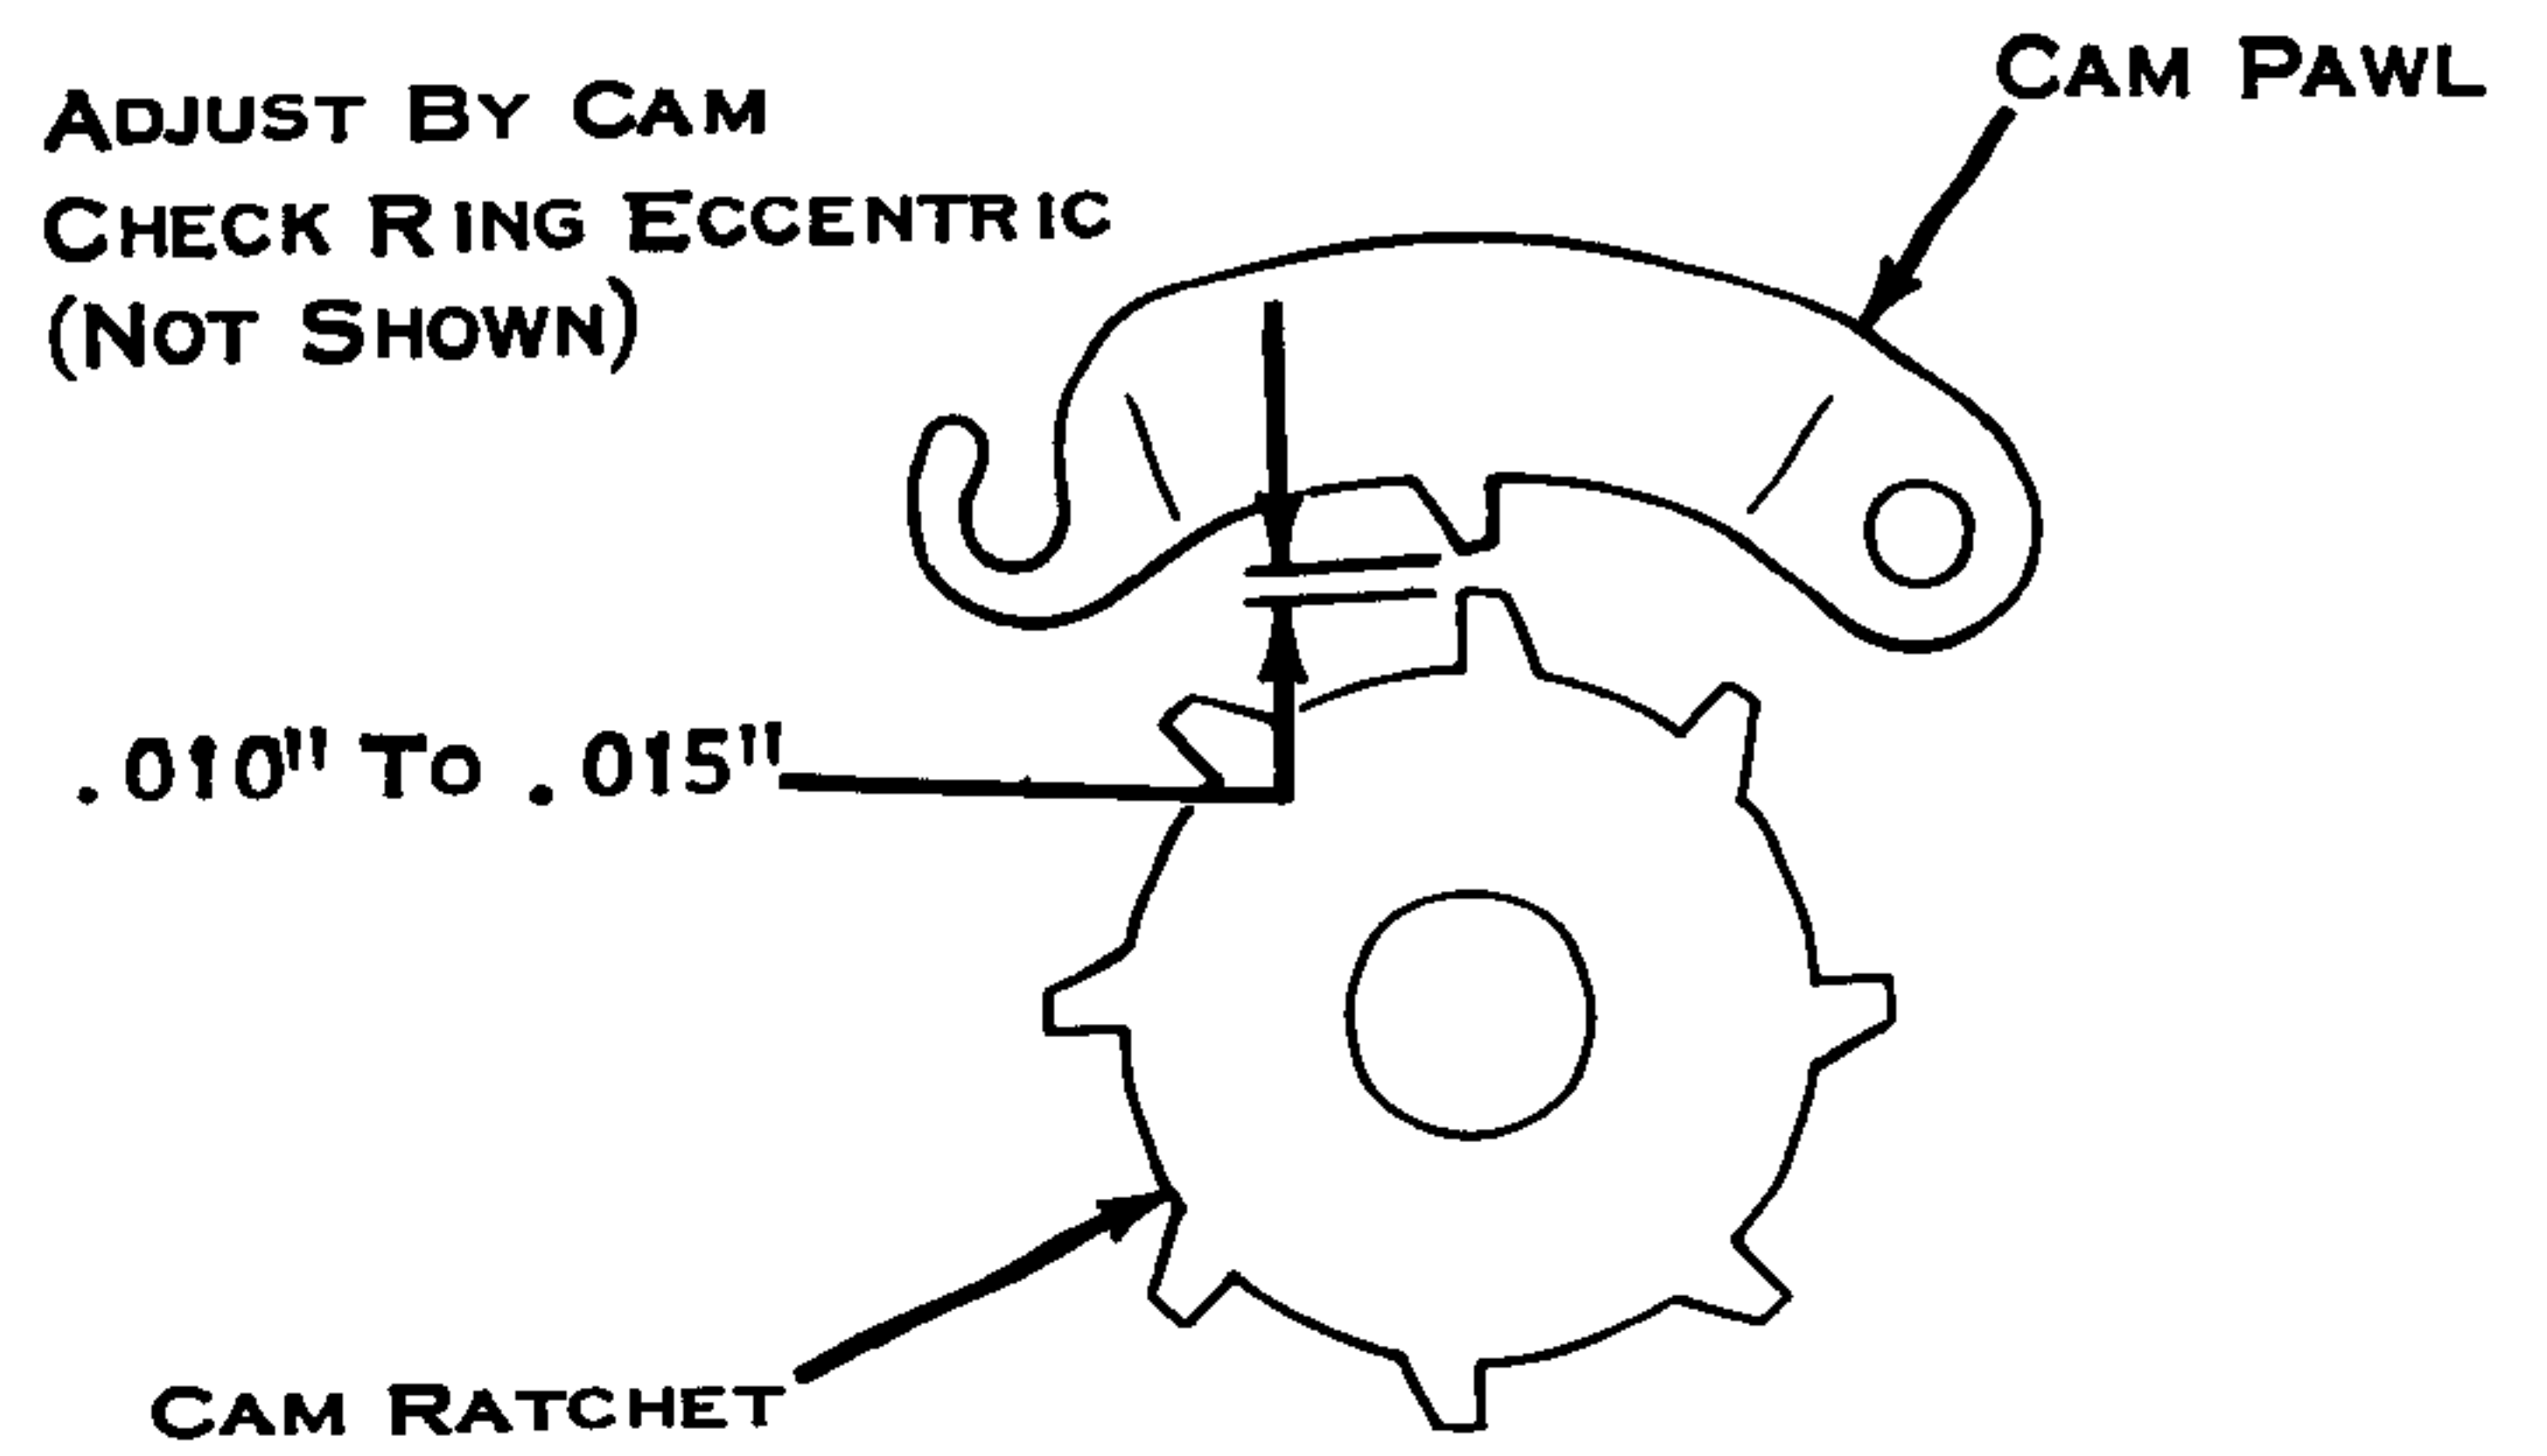

Figure 123. Cam Check Ring
5. Cam Check Ring (Fig. 123) - The cam check ring eccentric should be adjusted so that a clearance of .010" to .015" exists between the tip of the cam pawl and the teeth of the cam ratchet with the cam latch in the rest position.